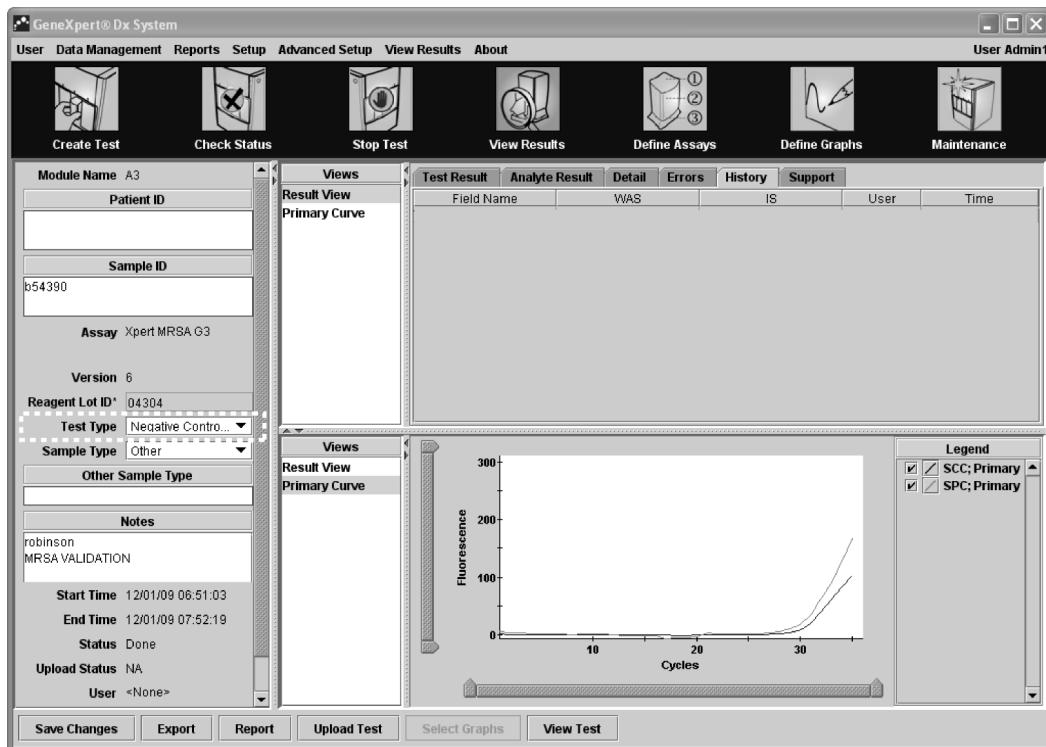
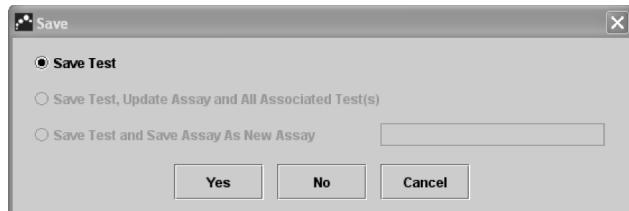

Figure 5-36. GeneXpert Dx System, View Results window—Test Type changed from Specimen to Negative Control
Figure 5-37. Save Test dialog box
3. Change Test Type to Negative Control as shown in Figure 5-36.
4. Click **Save Changes** button located at the bottom of the View Results window (Figure 5-36). The Save Test dialog box appears (Figure 5-37).